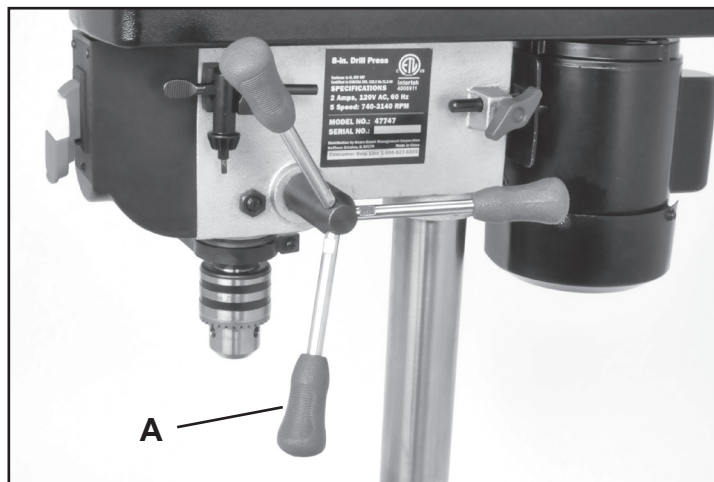

FIG. 6
6. Install the three feed handles into the threaded holes in the feed shaft's hub. FIG. 6, A.